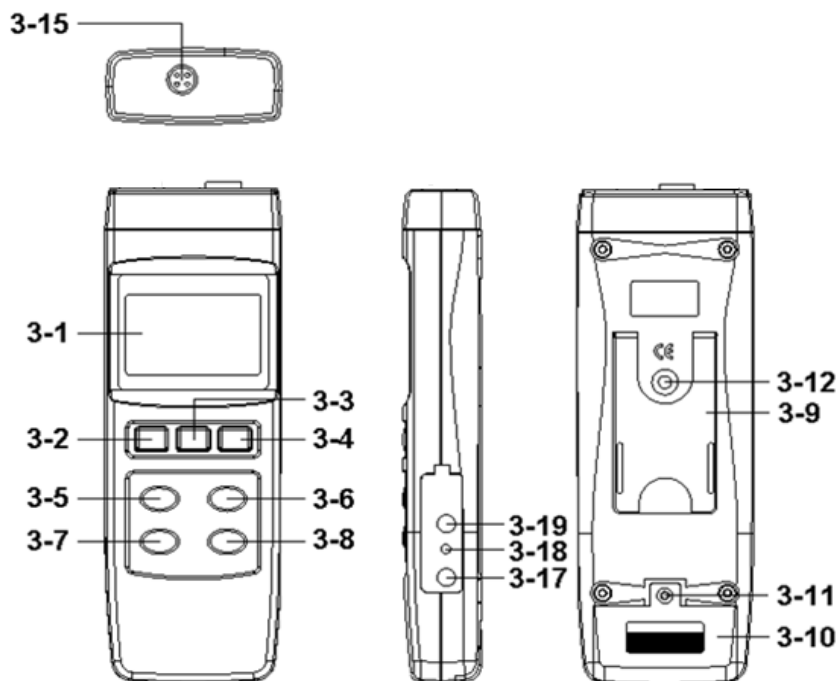
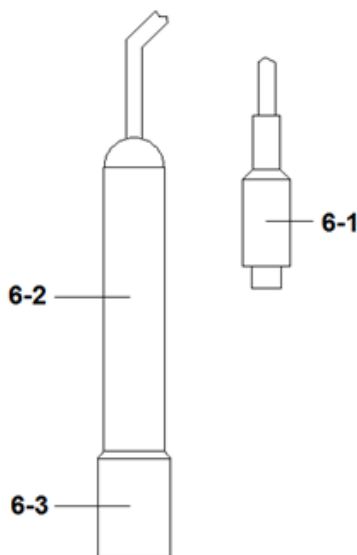
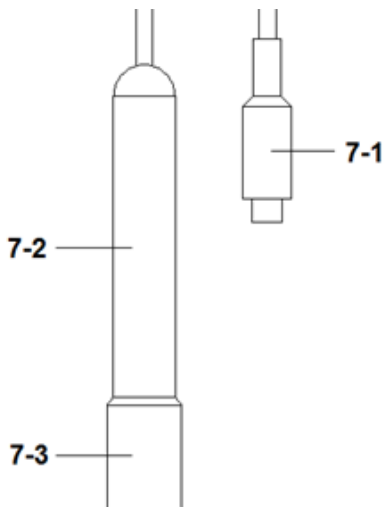

Fig. 1
Fig.2
Fig.3
(3-2, Fig. 1) momentarily.
** Pressing the " Power Button " (3-2, Fig. 1)
Pressing the " Function Button " (3-5, Fig. 1) once, the
- 1) Prepare the Conductivity Probe (included, CDPB-03), install the " Probe Plug " (6-1, Fig. 2) into the " CD Socket " (3-15, Fig. 1).
- 2) Power on the meter by pressing " Power Button " (3-2, Fig. 1) once.
- 3) Hold the " Probe Handle " (6-2, Fig. 2) by hand and let the " Sensing head " (6-3, Fig. 2) immersed wholly into the measured solution. Shake the probe to let the probe's internal air bubble drift out from the sensing head.
The meter is default to be used for the auto range mode. Push the " Range Button " (3-6, Fig. 1) once in sequence will change the range from 200 μ S, 2 mS, 20 mS, 200 mS and auto range.
If the probe not immerse the measurement solution and display not show zero value, pressing the " Zero (RANGE) Button " (3-5, Fig. 1) continuously at least 10 seconds will let display show zero. The zero function only valid for the 200 uS range and the not zero value is < 2.0 uS.
- 2) Install the " Probe Plug " (6-1, Fig. 2) into the " CD Socket " (3-15, Fig. 1).
- 3) Power on the meter by pressing " Power Button " (3-2, Fig. 1) once.
- 4) Hold the " Probe Handle " (6-2, Fig. 2) by hand and let the " Sensing head " (6-3, Fig. 2) immersed wholly into the measured solution. Shake
- 5) Use the two fingers to press the " ▲ Button " (3-5, Fig 1) and " ▼ Button " (3-6, Fig. 1) at the same time. the display will show the following screen as example, release the both fingers.
- 6) Press the " Enter Button " (3-4, Fig. 1), the measuring value will present on both upper and lower Display. Use "▲ Button " (3-5, Fig. 1), " ▼ Button " (3-6, Fig. 1) to adjust the up display value exact same as the standard conductivity value. Press the " Enter Button " (3-4, Fig. 1) will save the calibration data and finish the calibration procedures.
- 1) Prepare the Conductivity Probe (included, CDPB-03), install the " Probe Plug " (7-1, Fig. 3) into the " CD Socket " (3-15, Fig. 1).
- 3) Hold the " Probe Handle " (7-2, Fig. 3) by hand and let the " Sensing head " (7-3, Fig. 3) immersed wholly into the measured solution. Shake the probe to let the probe's internal air bubble drift out from the sensing head.
During the measurement, press the " Hold Button " (3-3, Fig. 1) once will hold the measured value & the LCD will display a " HOLD " symbol.